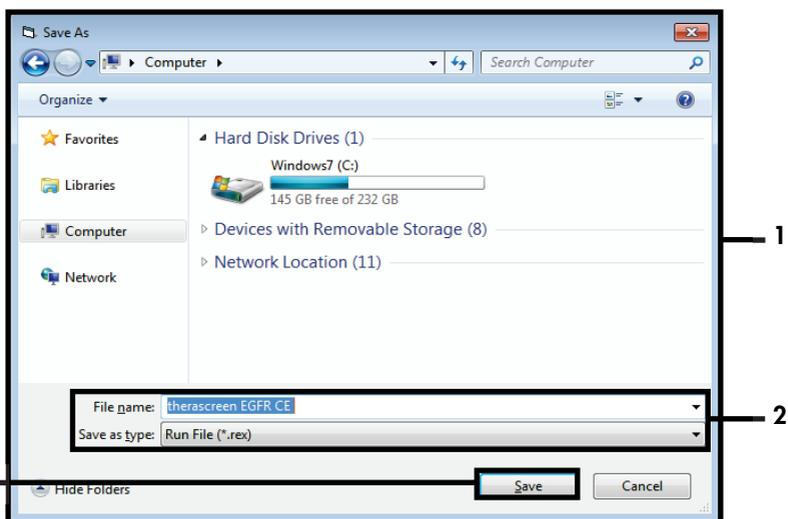

Figure 15. "Save As" window (1). 2 = "File Name" and "Save as type" fields; 3 = "Save."
17. The “Save As” window opens. Chose an appropriate file name and save the PCR run as a *.rex run file to the selected location. Click **Save** (Figure 15).